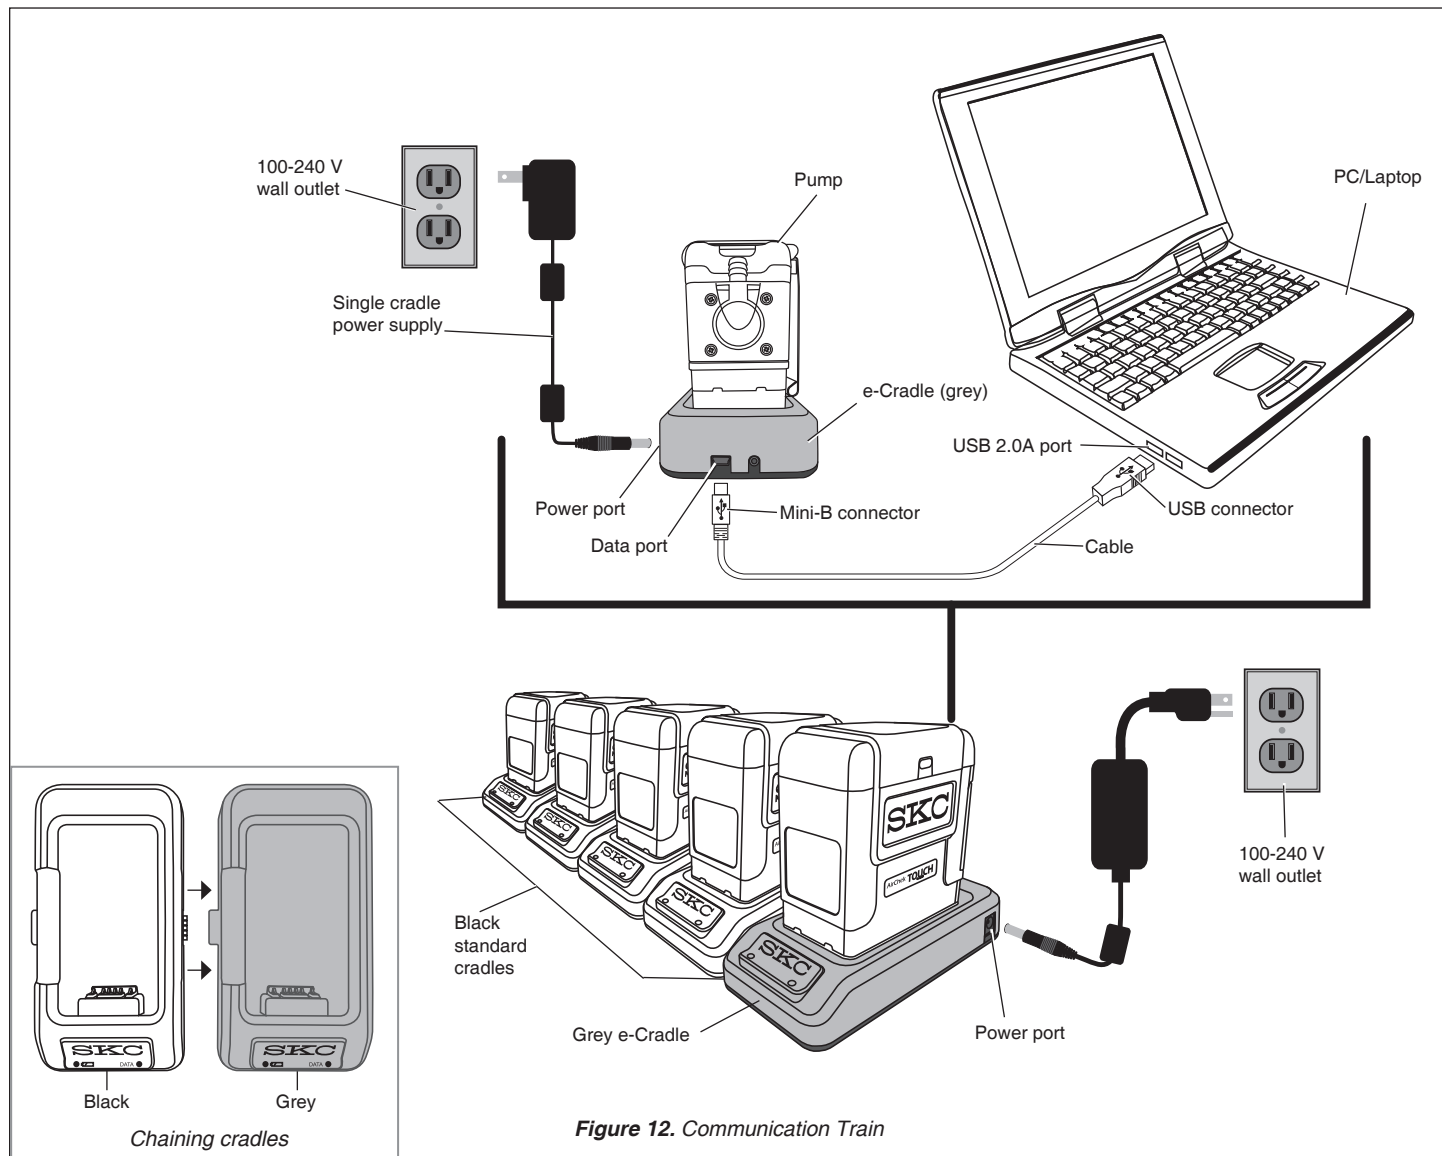

Figure 12. Communication Train
2. Create a communication train (Figure 12). Turn **on** pump(s).